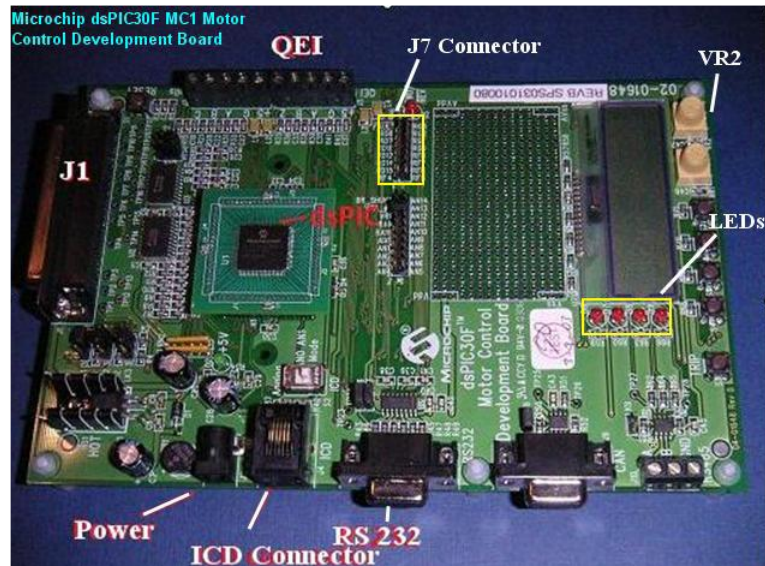

Fig. 1 Motor Control Development Board (MCDB)
- Microchip dsPIC30F MC1 Motor Control Development Board (MCDB) with a microcontroller dsPIC30F6010A (Fig. 1)